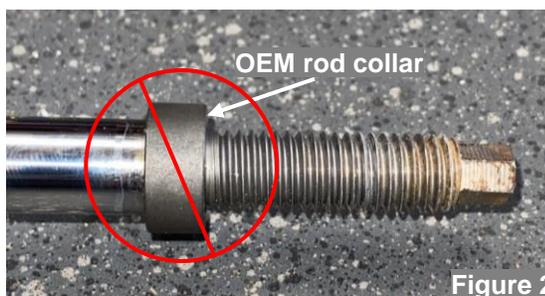

Figure 2
**NOTE: DO NOT use the OEM rod collar on the new Bilstein 6100/6112 shock, refer to Figure 2.**